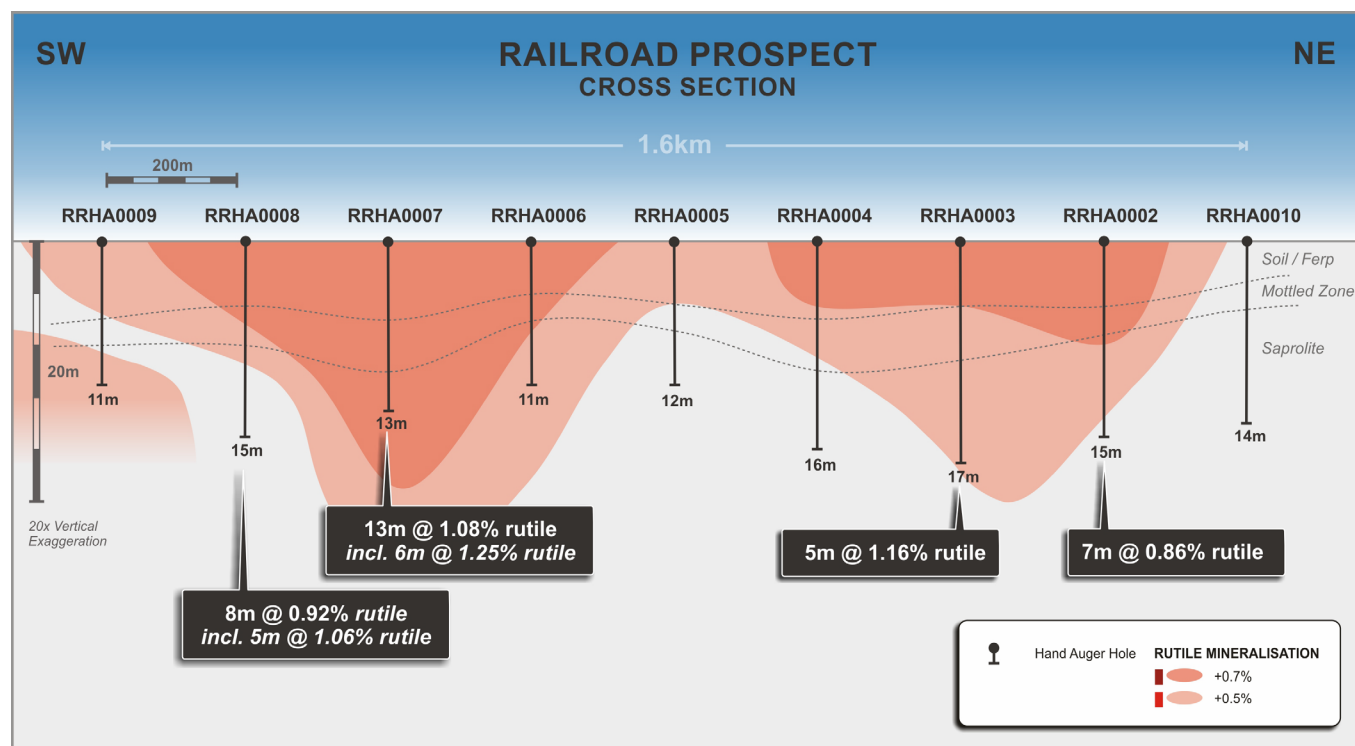

Figure 2. Railroad cross-section SW-NE.
*For simplicity and due to the extreme vertical exaggeration required in the cross-section (Figure 2), the differing RLs of the drill collars are not depicted.